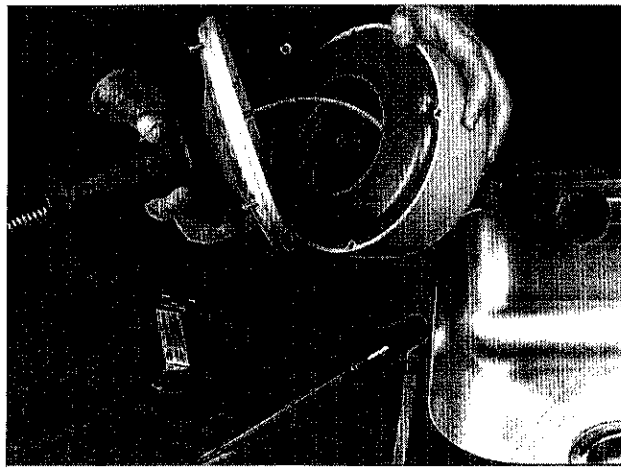

Figure 5. Pass exposed cable through front half and reassemble to back half of canister.
5. Pass the exposed Cable through the Front Half Assembly, align the Front Half with the Back Half of the Canister, and tighten the captive fasteners into the Back Half of the Canister. (Fig. 5)